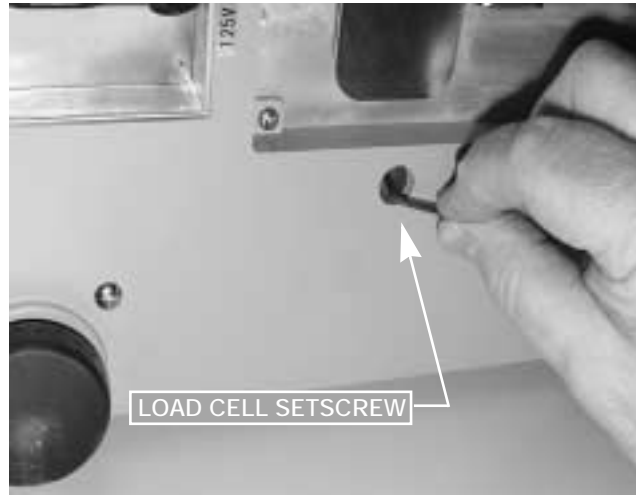

Figure 2-2. Setscrew Removal
2. Remove load cell setscrew (see Figure 2-2) using the 2 millimeter hex wrench provided with scale.